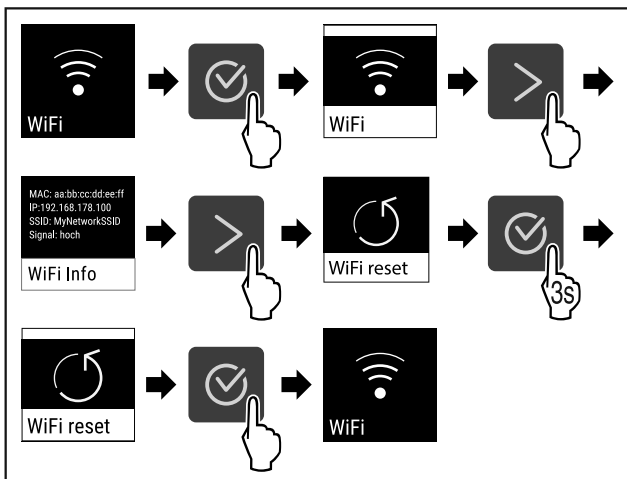

Fig. 88
- ▶ Complete the steps (see Fig. 88).